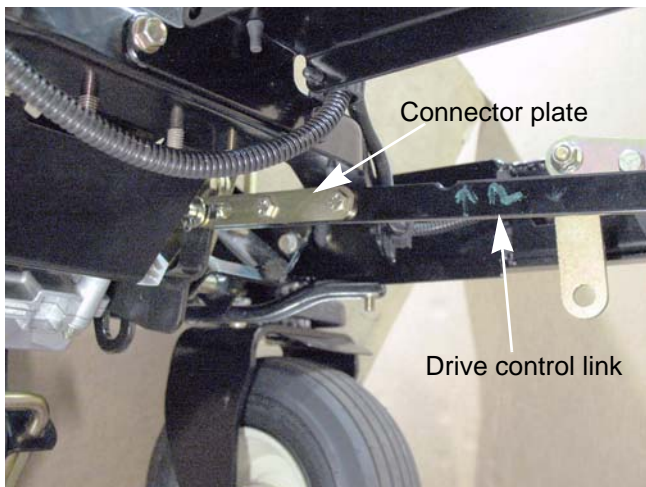

Figure 6.28
17. Connect both of the drive control links by installing the nuts and bolts that attach the connector plates to the drive control link using a pair of 7/16" wrenches. See Figure 6.28.